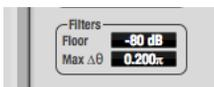

Figure 11-29: Filters
The *Filters* section (Figure 11-29) lets you control the density of the Phase Analysis display.
*Floor* (Figure 11-29) determines the amplitude threshold for the display. When the amplitude of both channels drops below this threshold, the signal is not shown.
*Max delta theta* (Figure 11-29) only affects Line view (see “Line/Scatter” on page 75) and sets the maximum difference in frequency between plot